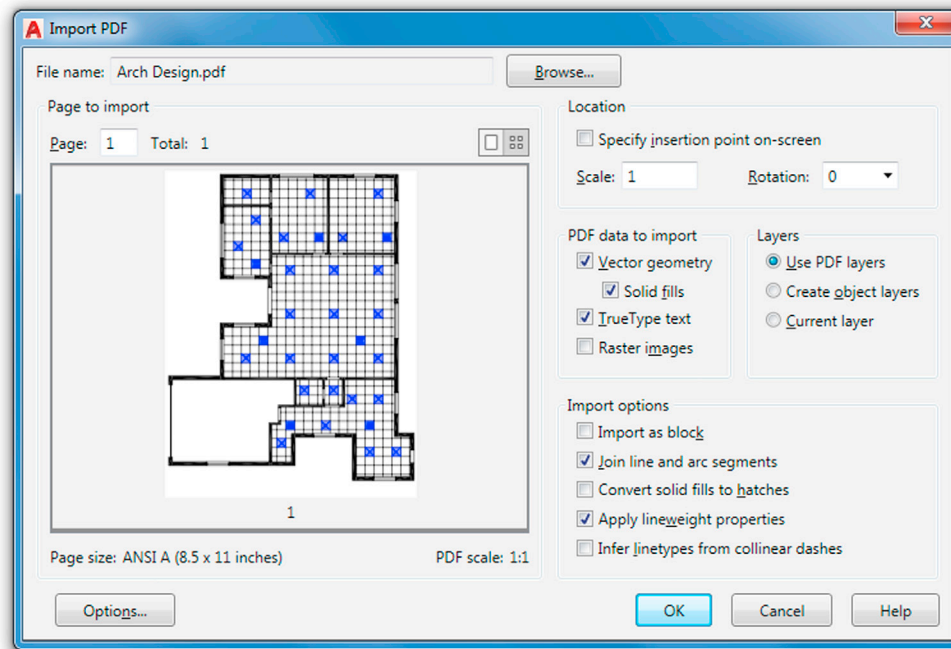

FIGURE 16.10 Import PDF.
Step 4. Browse around and select the PDF file you wish to import. Once you click the file name, the Import PDF dialog box (Fig. 16.10 appears).